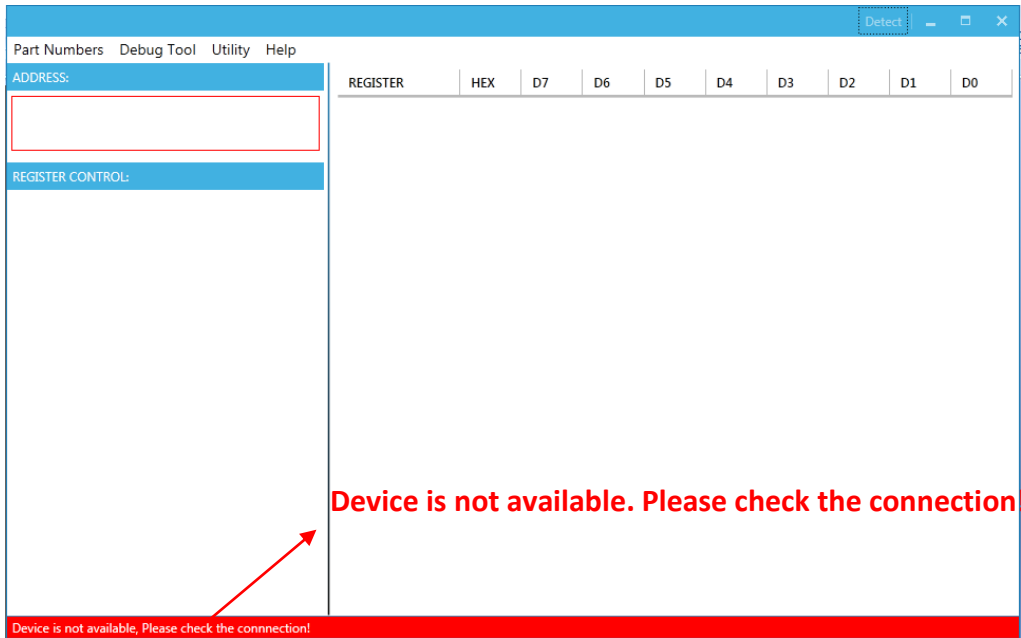

Figure 9: Warning Indicates Unsuccessful Connection – USB/I2C Communication Interface Devices not Connected
- 2) “Device is not available. Please check the Connection!” This means that the USB I2C communication interface device is not connected (see Figure 9).